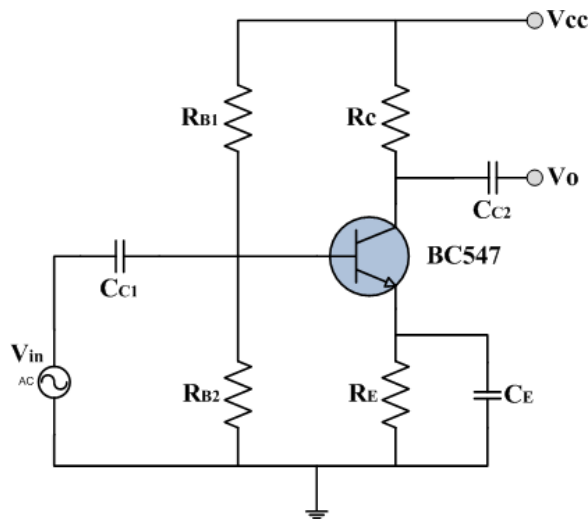

Fig 6.1. Circuit diagram of common emitter amplifier
An amplifier is a device that amplifies the weak electric signals. One of the most common application of BJT is as an amplifier. For the BJT to act as an amplifier, it must be operated in the middle of the active region. A typical circuit diagram for a small signal common emitter (CE) amplifier is shown in Fig. 6.1. In this arrangement, potential divider bias has been used, which has the highest stability factor against variation of *beta*,  $\beta$ . The component values are such that it will drive the transistor into the active region. The emitter resistance further improves the stability and provides negative feedback to the base-emitter loop that reduces the overall gain of the transistor. A small signal to be amplified is connected to the base-emitter loop through coupling capacitor. The capacitors in the circuit block the dc signal therefore the operating point remains unchanged. The capacitor across the emitter resistance bypasses the ac signal and improves the amplifier's gain. Apart from the external capacitances, the BJT also have internal capacitances at the junctions. The presence of all these capacitance in the circuit makes the overall gain frequency-dependent.
point. A typical circuit diagram for a multistage (cascaded) common emitter (CE) amplifier is shown in Fig. 6.1.